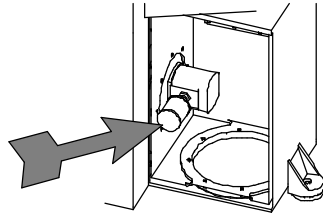

Fig. 21
d) replace the hydraulic oil and relevant filter (code 01000133, tav. 4-5-6) every 8000 working hours (Fig. 21);